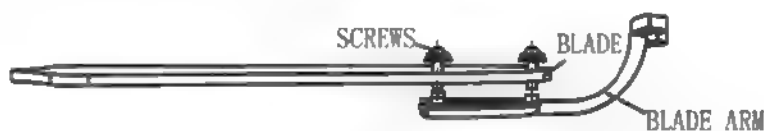

Fig 11
1. Place screw through the blade and start the screw into the blade arm repeat this procedure without tightening the screw until all 3 screws have been started into the blade arm (Fig.11). As most fan use concealed screw blades arms, screws may not go through the whole blade arms.